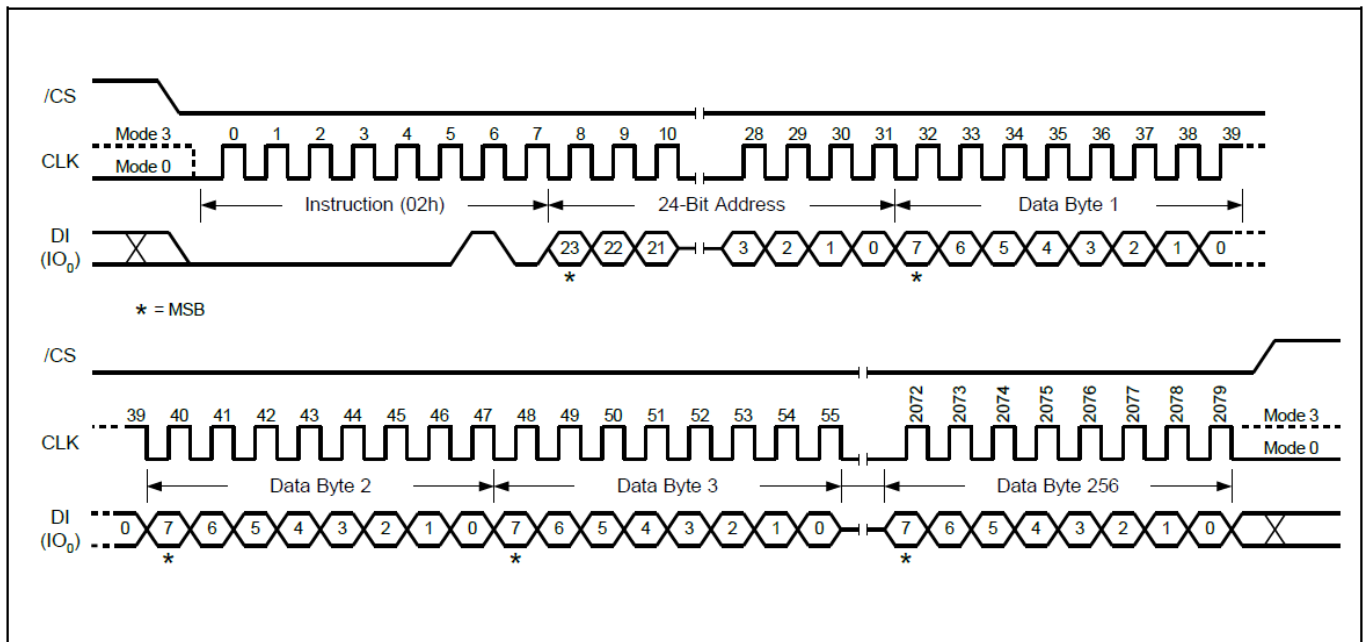

Figure13 Page Program Sequence Diagram
The Page Program (PP) command is entered by driving CS# Low, followed by the command code, three address bytes and at least one data byte on DI. If the 8 least significant address bits (A7-A0) are not all zero, all transmitted data that goes beyond the end of the current page are programmed from the start address of the same page (from the address whose 8 least significant bits (A7-A0) are all zero). CS# must be driven low for the entire duration of the sequence. The Page Program command sequence: CS# goes low → sending Page Program command → 3-byte address on DI → at least 1 byte data on DI → CS# goes high. The command sequence is shown in Figure13. If more than 256 bytes are sent to the device, previously latched data are discarded and the last 256 data bytes are guaranteed to be programmed correctly within the same page. If less than 256 data bytes are sent to device, they are correctly programmed at the requested addresses without having any effects on the other bytes of the same page. CS# must be driven high after the eighth bit of the last data byte has been latched in; otherwise the Page Program (PP) command is not executed.